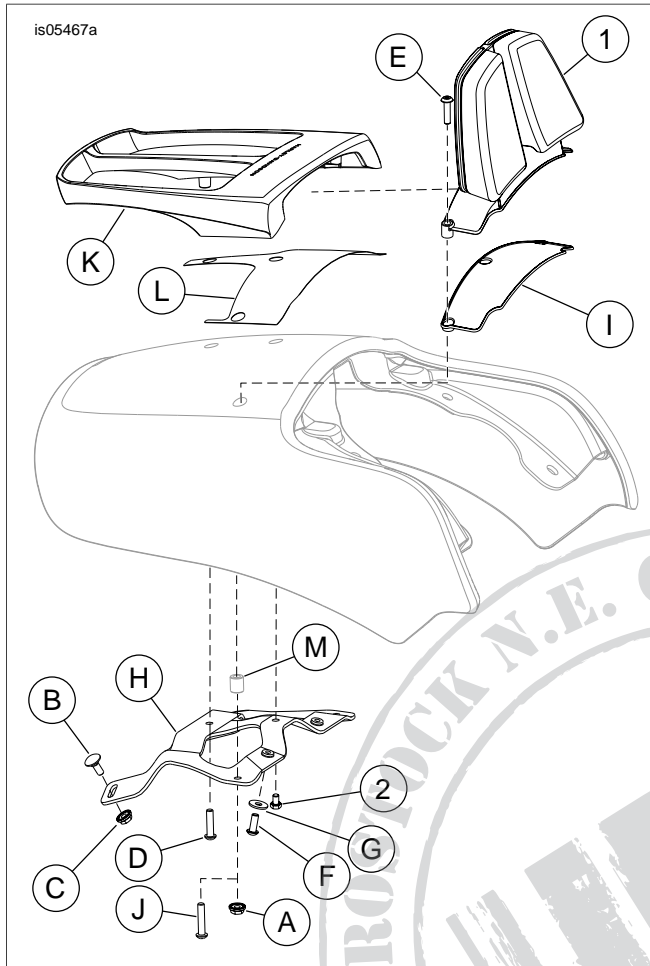

Figure 5. Service Parts: VRSCF Upright
See Figure 5 and Table 1.
1. See Figure 5. Remove the carriage bolts (B) and flange nuts (C). Save for installation.
2. Remove screws (D, F and J) and washers (G). Save for installation.
3. Remove spacers (M). Discard spacers.
4. Remove mounting bracket (H) and luggage rack (K). Save for installation.
6. See Figure 5. Install the upright (1) onto the rubber gasket (I).
8. Align the mounting holes of the support bracket (H) with the mounting holes of the upright.
9. See Figure 5. Install bolt (2) and tighten finger-tight.
10. Install the two screws (E) and nuts (A) in the outer mount locations and tighten finger-tight.
12. Tighten bolt (2) to 10-12 Nm (88-106 in-lb).
6. If luggage rack has not been previously installed: See Figure 5. Apply the protective tape (L) to the painted surface using the drilled holes for alignment.
7. See Figure 5. Slide the upright (1) onto the luggage rack (K).
9. Align the mounting holes of the support bracket (H) with the mounting holes of the upright and luggage rack.
10. See Figure 5. Install screw (D) and tighten finger-tight.
11. Install bolt (2). Tighten finger-tight.
4. See Figure 5. Install two screws (F) and flat washers (G) through the holes in the seat pan and into the weld nuts on the support bracket (H). Tighten finger-tight.
7. See Figure 5. Tighten the nuts (C) and screws (F) to 7-9 Nm (62-80 **in-lb**).